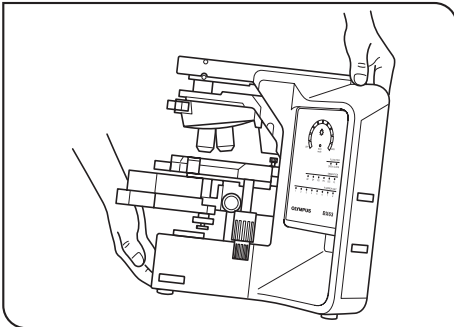

Fig. 3
(Fig. 3)
3. When moving the microscope, carry it by holding the grasping part on the rear of the arm and the front part of the base as shown in Fig. 3 (Weight: Approx. 19 kg).